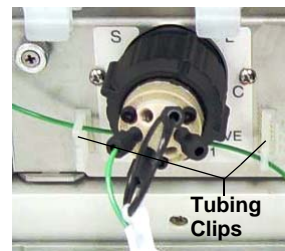

Figure 4-33. Tubing Clips
2. Connect one end of this tubing to the coupler on the line from the Dionex RFIC⁺ Eluent Degasser labeled **TO INJ VALVE-P** (white label). Route the line to the injection valve and connect it to port **P** (2).
4. Connect the line from the temperature stabilizer to port **C** (3).
5. Route all lines through the appropriate tubing slots and secure the tubing in the tubing clips (see Figure 4-33).